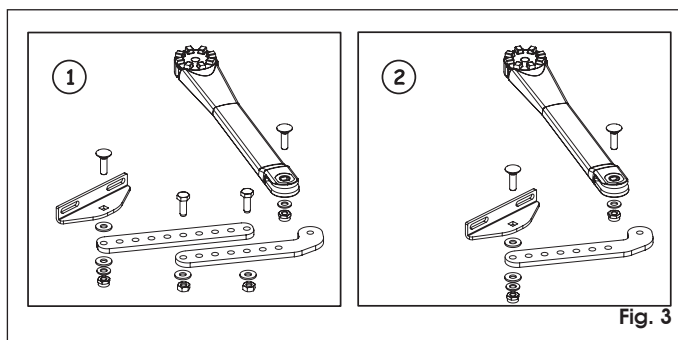

Fig. 3
3. Assemble the operator arm as shown in Fig.3 ref. ① or ② according to the determined dimension.